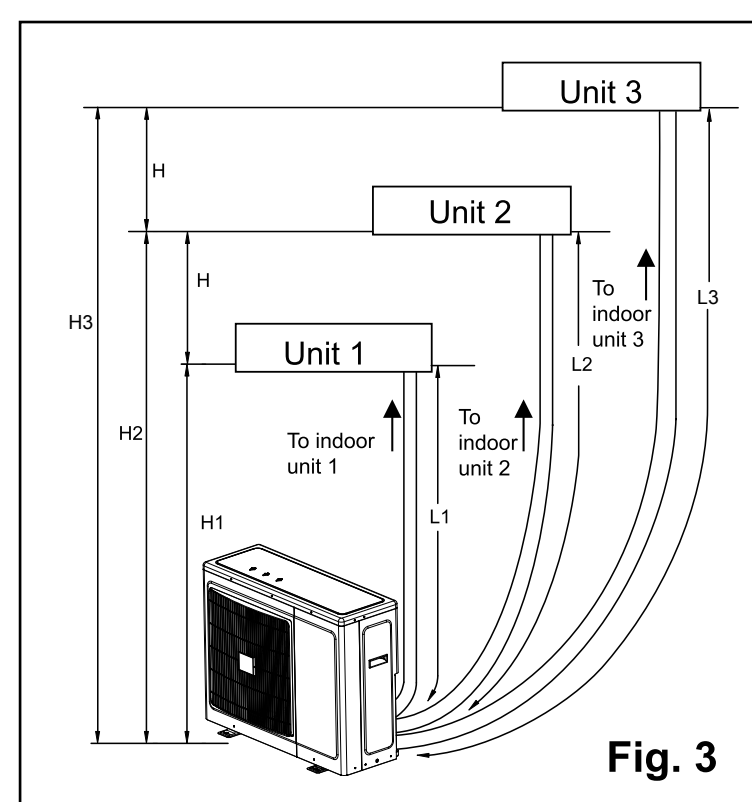

Fig. 3
- Refer to figure 3 for allowed installation distances.